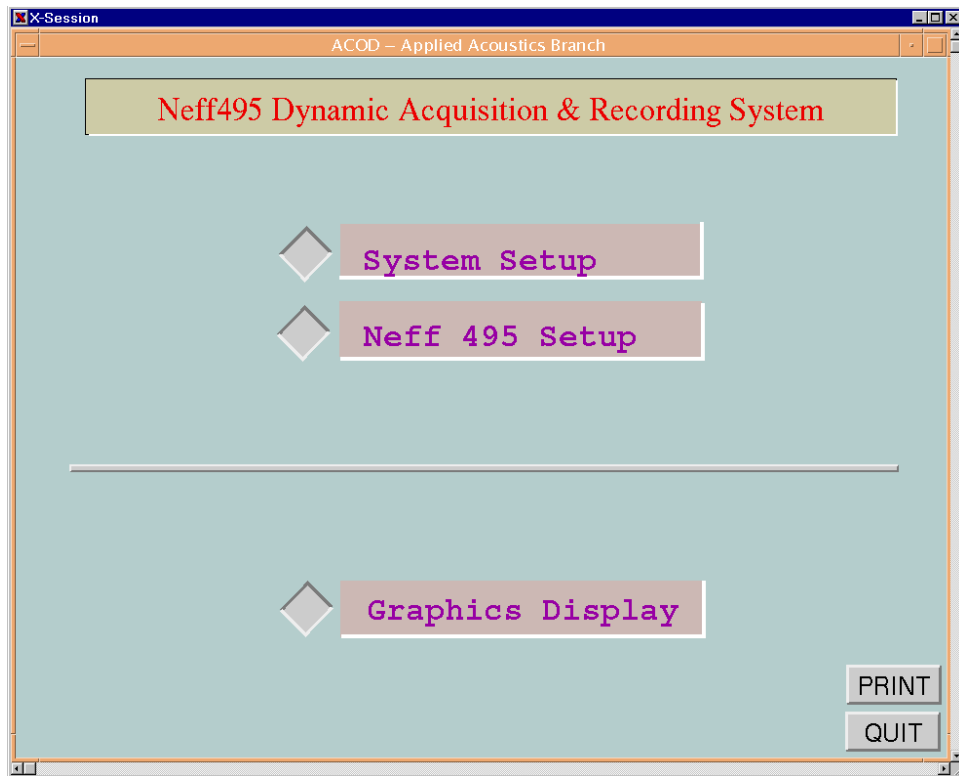
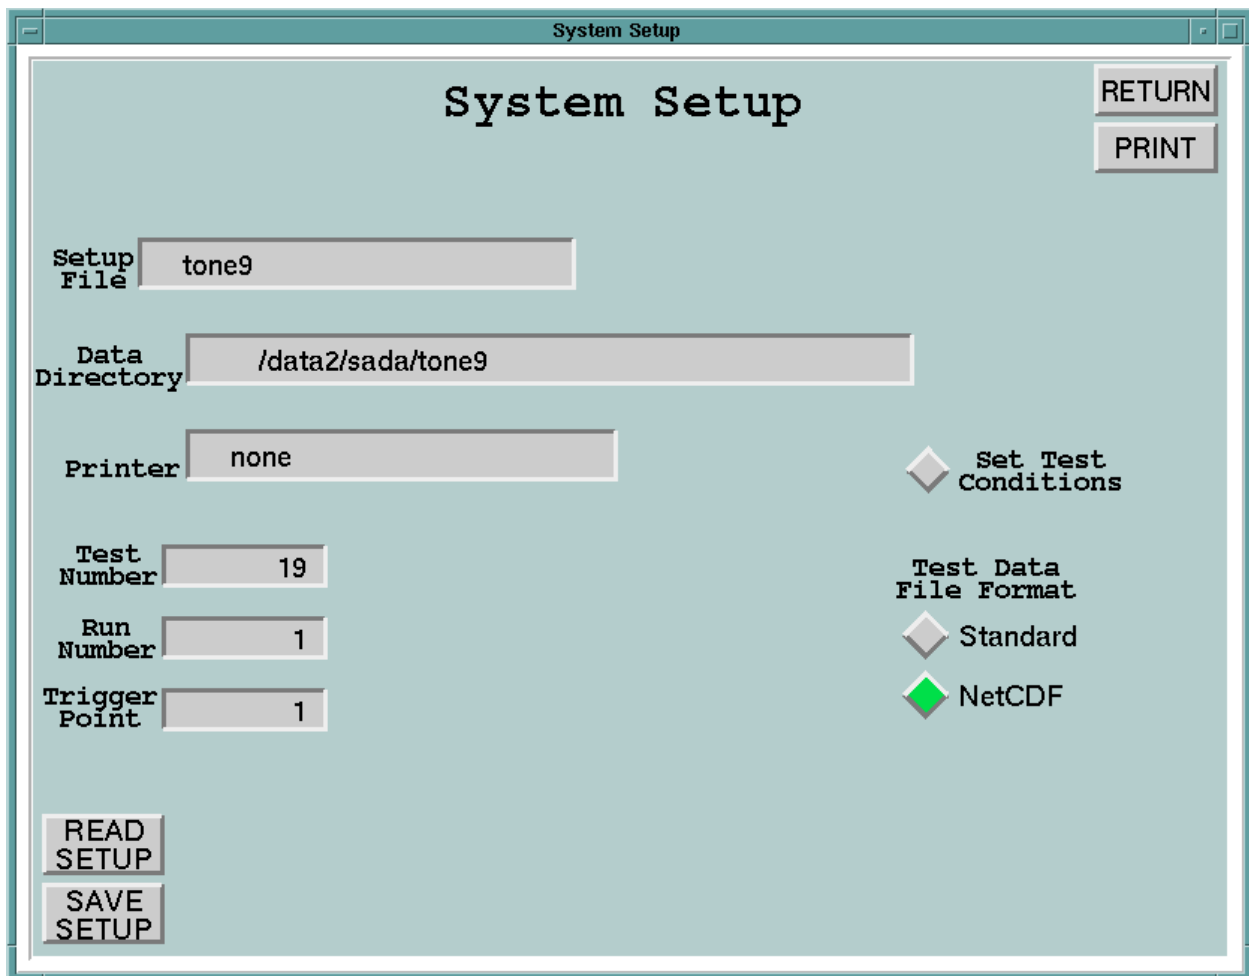
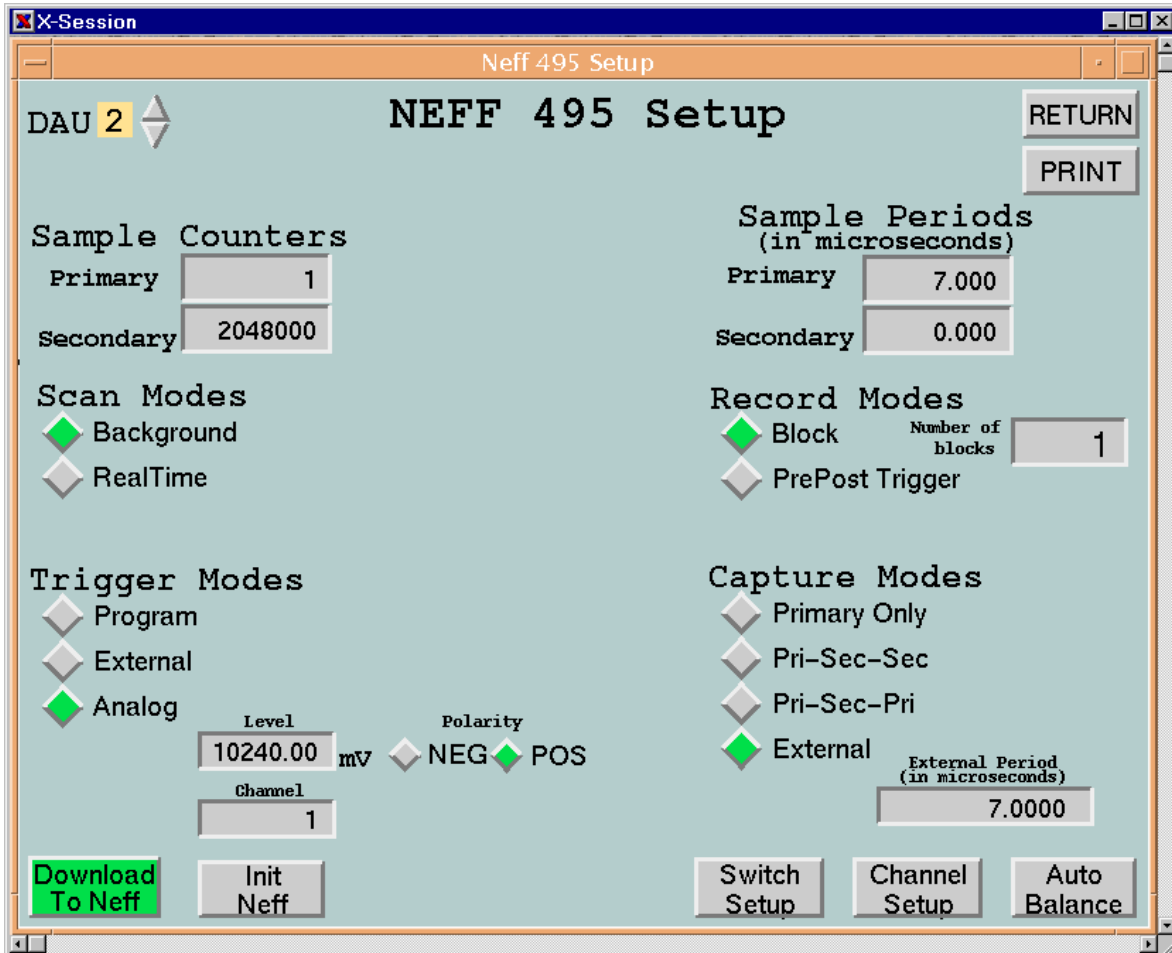

Figure 6.2-1. Neff495 Dynamic Acquisition & Recording System
Figure 6.3-1. System Setup Menu Screen
Figure 6.4-1. Neff 495 Setup Menu Screen
To start the DDARS **Data Acquisition** program, type **./run495 &** at the terminal window's command prompt. The main menu, *Neff495 Dynamic Acquisition & Recording System* shown in Figure 6.2-1, is displayed on the user's X-terminal. The menu contains diamond shaped push buttons that invoke submenus that control the major functions of the DDARS system. Functions are selected by clicking the appropriate push button. These functions are described in Section 6.2.
To exit the program, click on the **RETURN** button on each submenu until you return to the main menu, *Neff495 Dynamic Acquisition & Recording Software* (Figure 6.2-1). Then, click on the **QUIT** button. To exit the operating system, logout procedures depend upon the window manager used by the user. See the appropriate window manager documentation.
After logging on to the Compaq/Alpha, the DDARS system is activated by typing at the terminal window's system prompt *.run495 &*. This script file contains all commands necessary to run the DDARS system. The DDARS main menu, *Neff495 Dynamic Acquisition & Recording System*, shown in Figure 6.2-1, is displayed on the user's X-terminal. Also, the *Data Capture* window (Section 6.5) appears on the main console screen, and the *Overview* window (Section 6.8) appears on the second console screen. However, if DDARS is run remotely, the *Overview* window appears on the main terminal screen with the *Main* and *Data Capture* windows.
**System Setup** - Pops up the facility and *System Setup Menu* (Figure 6.3-1). See Section 6.3 for a description of this function. Note that all Neff 495 system and facility experimental setup information are saved from this screen.
**Graphics Display** - Invokes the *Graphics Display Menu* screen (Figure 6.6-1), which replaces the *Neff495 Dynamic Acquisition & Recording System* screen (Figure 6.2-1). See Section 6.6 for a description of this function.
**QUIT** - Clicking on this push button causes the DDARS to exit and returns the user to the system prompt. Before terminating the system, the user should ensure that all system setup changes are saved. This is accomplished by clicking on the **SAVE SETUP** button on the *System Setup Menu* screen (Figure 6.3-1).
The facility-specific *System Setup Menu* screen (Figure 6.3-1) pops up after selecting the **System Setup** option on the *Neff495 Dynamic Acquisition & Recording Software* screen (Figure 6.2-1). From this screen the user is able to enter or select all information required to specify system parameters and record test conditions. Test conditions are set from a separate submenu that is invoked from this screen. Setup information for both experimental conditions and Neff 495 settings can be saved to and read from a previously defined file or entered manually. See Appendix B.1 for a description of the file format.
The *Neff 495 Setup Menu* screen (Figure 6.4-1) pops up after selecting the **Neff 495 Setup** option from the *Neff495 Dynamic Acquisition & Recording Software* screen (Figure 6.2-1). The Neff 495 is set up when the *System Setup* file (Section 6.3) is read. Changes applied in this menu may be saved by returning to the *System Setup* menu and saving a new *System Setup* file.